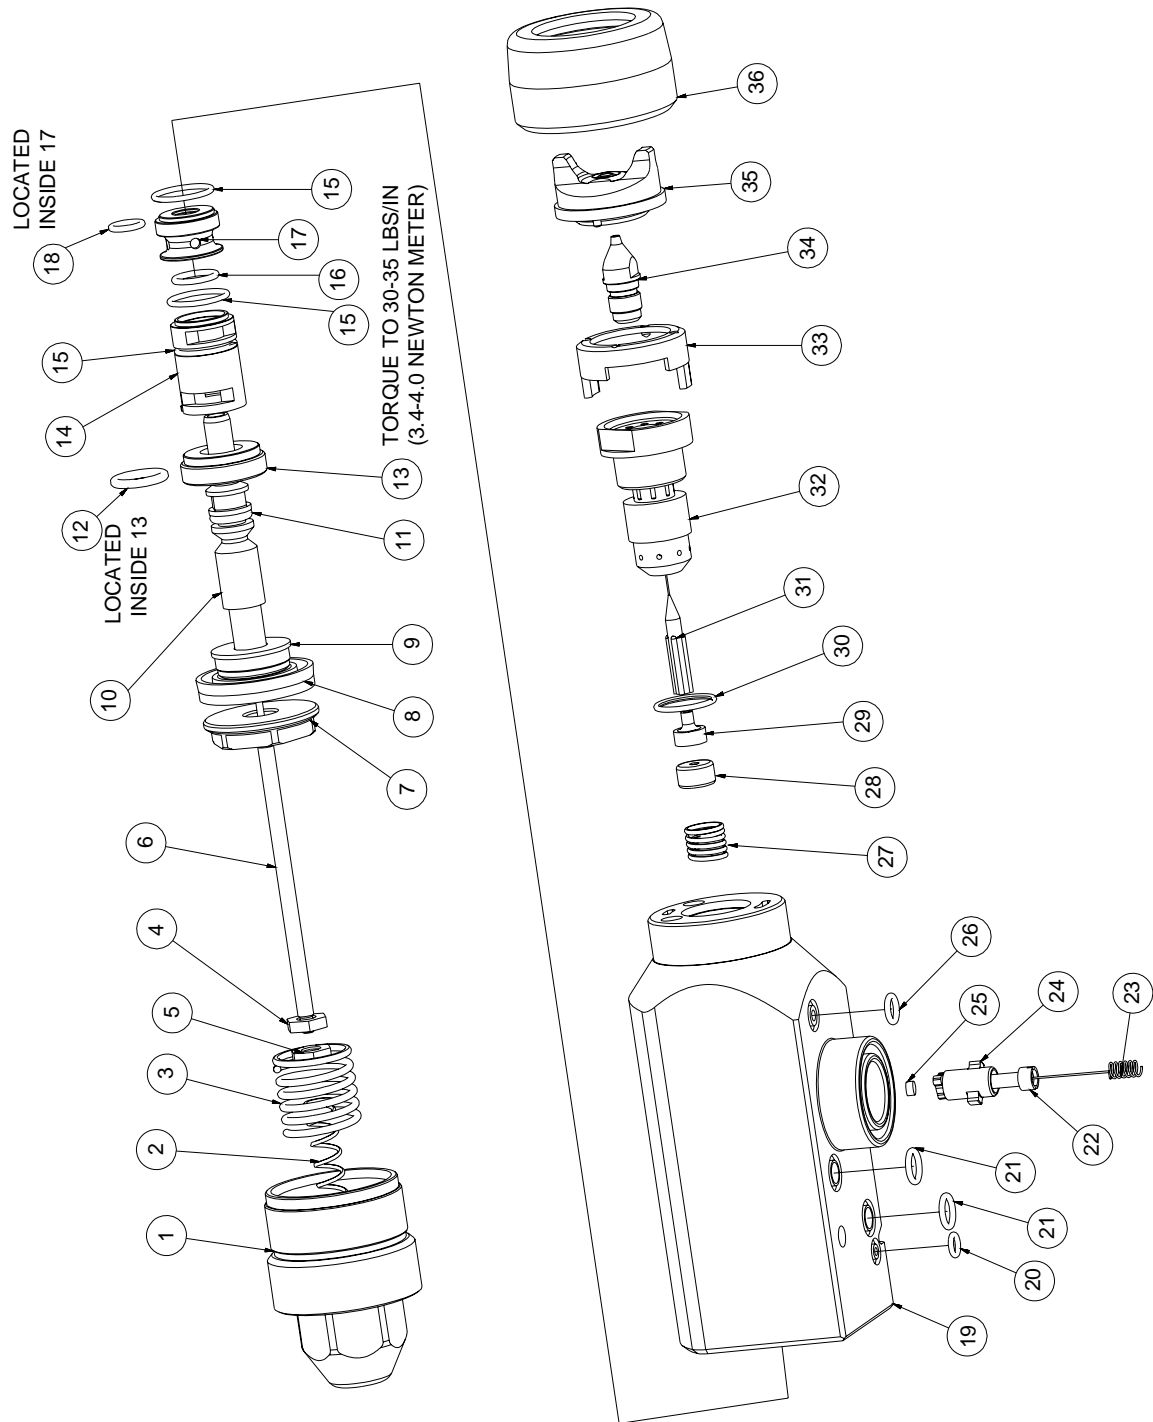

Figure 19: Spray Head Assembly
PARTS LIST (Figure 19)**
**(Figure 19)**